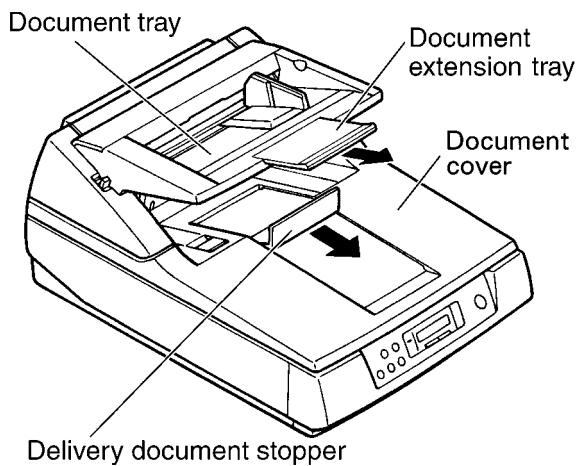

Fig. 1-15
- f. When using long paper, pull out the document extension tray from the hopper and the delivery document stopper from the document cover. Then adjust the delivery document stopper above the document cover a little longer than the actual length of the document. (See Fig. 1-15)